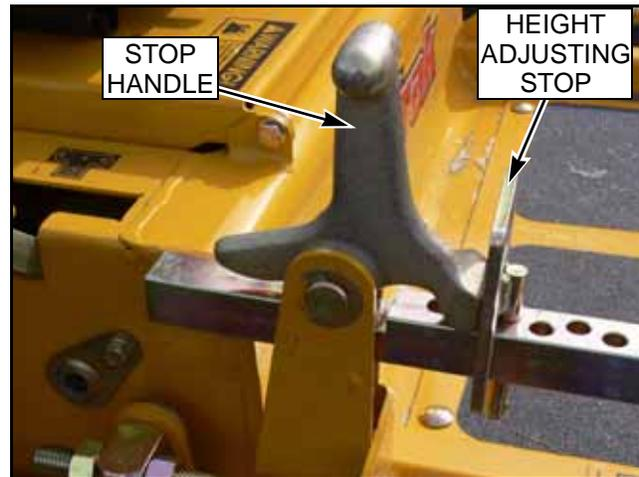

FIG. 72
4. Set cutting height at 3 ¼" in the height indicator by placing the height adjusting stop in the 3" hole, and turning the height stop so that the flat side is against the stop handle. FIG. 72